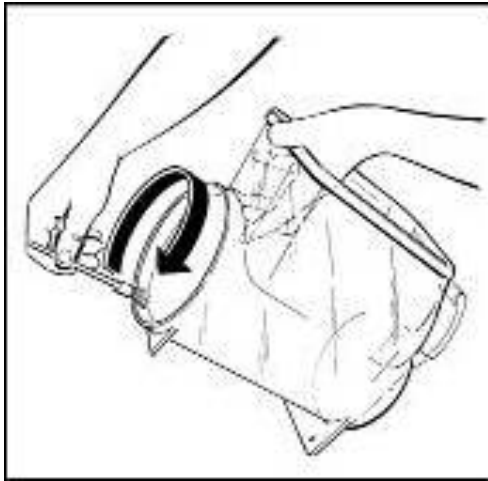

Fig. 45
- Lubricate the rear of the tank where it meets with the seal to facilitate the reassembling procedures (see Fig. 45).